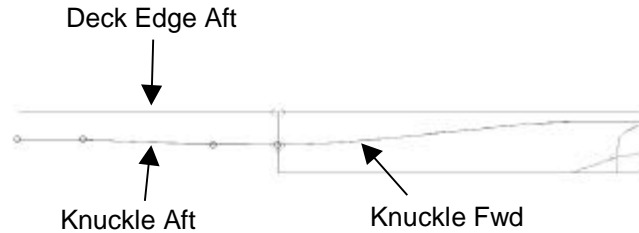

Figure 5-8: Deck Edge Aft and Knuckle Aft Curves
3. In *S Side* view, in Edit mode, click on the middle control point and add another control point using the Refine option. Edit *Knuckle Aft* to the desired shape. Adjust the vertices in the vertical direction only. Be sure that both the forward-most vertex and the next one aft is at  $V = U6.3$  so that *Knuckle Aft* connects smoothly with *Knuckle Fwd*. (See figure 5-8).